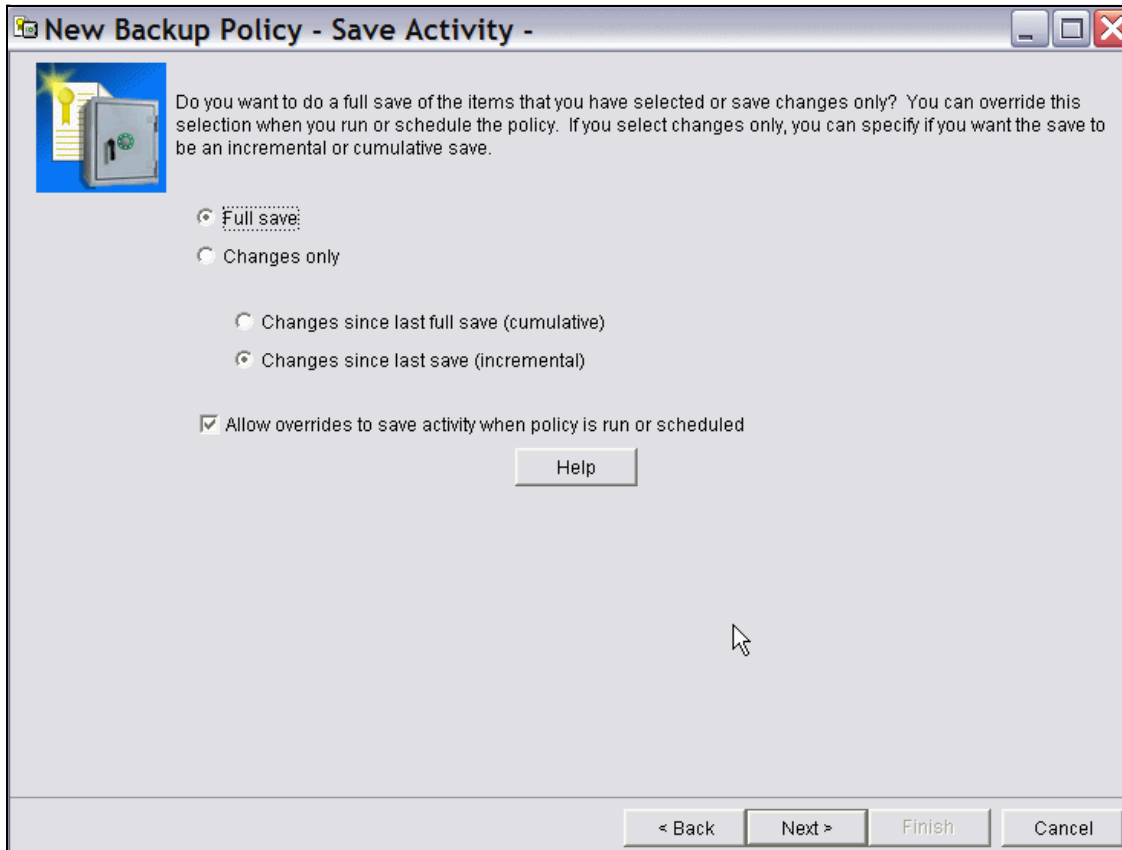

Figure 5-23 BRMS backup policy, save activity
- The Save Activity window is shown in Figure 5-23 on page 211. Since DOMINO02 is a minor server, everything is backed up to make recovery easier. To do this, select **Full save**. Against Changes only, select **Changes since last save (incremental)**. Select **Allow overrides...** and then click **Next**.